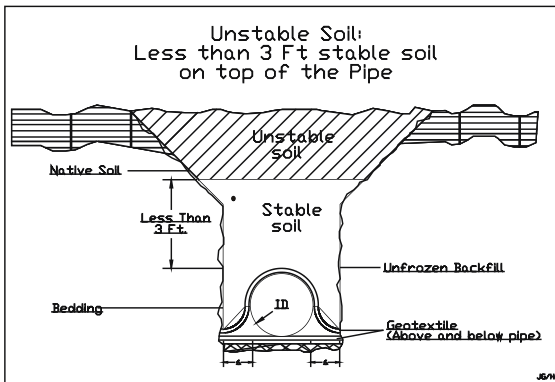

Fig. 3
- C. **Stabilization of the soil** can be achieved with a filter cloth such as Geotex[®]. This material has proven useful to stabilize the ditch bottom in boggy, wet conditions. Geotextile can be placed below the pipe to reduce sinking and above the pipe to stabilize backfill (Fig. 3).